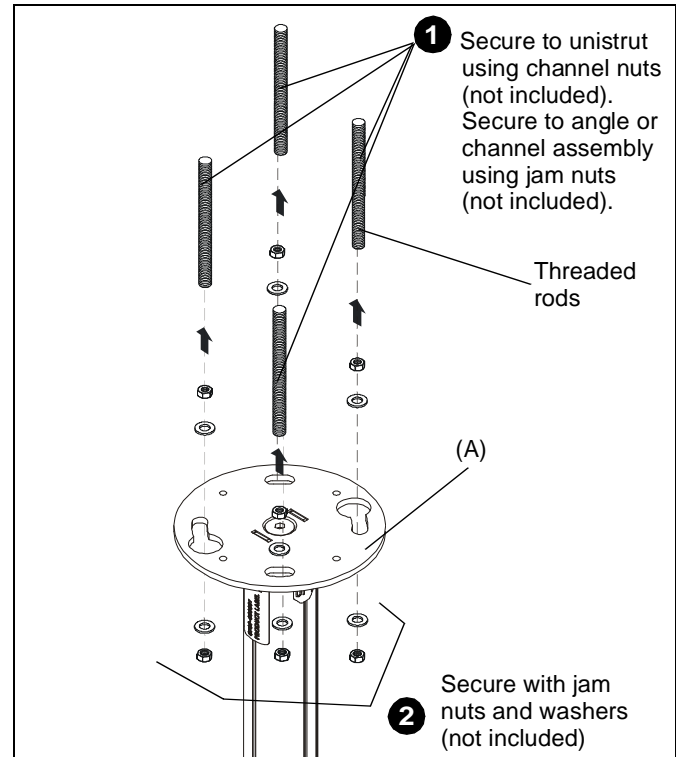

Figure 6
- Secure the threaded rods to the CPA mount with 3/8" jam nuts (not included) and washers (one of each on inside and one of each on outside-not provided). (See Figure 6)